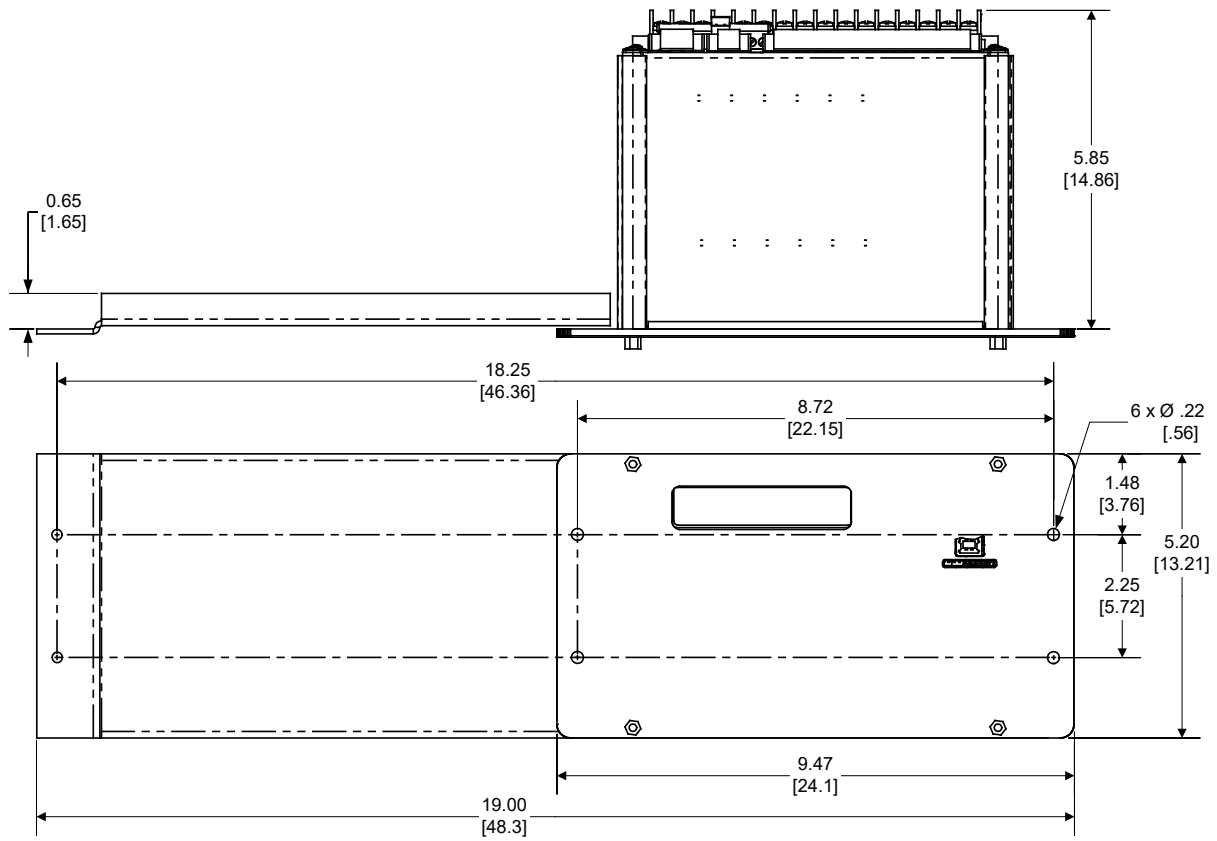

Figure 12 M-7651A D-PAC 19 Inch Rack Mount Adapter Frame Dimensions
**Mounting:** The unit is a semi flush, 3U high design that can be panel mounted or mounted in a standard 19" rack mount with the optional Rack Mount Adapter Frame (Figure 12). Vertical mount units are also available.